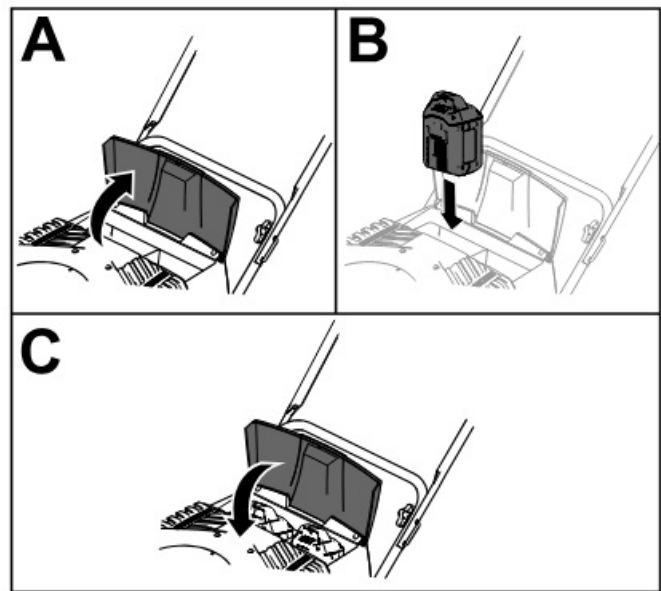

Figure 7
2. Lift up the battery-compartment lid (A of Figure 7).
3. Line up the cavity in the battery pack with the tongue on the machine and slide the battery pack into the compartment until it locks into place (B of Figure 7).
4. Close the battery-compartment lid (C of Figure 7).